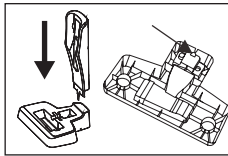

Fig. 1
- Assemble the charging station (21+23) - Fig. 1. To disassemble the station, turn it round, move the lever, and pull out the upper section.